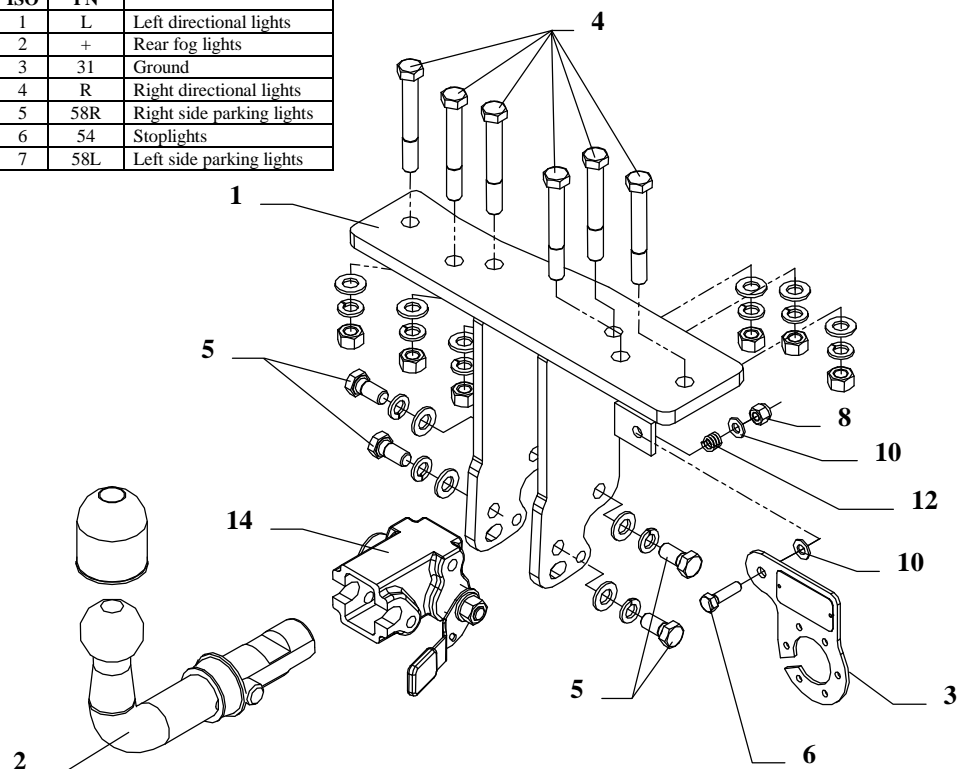
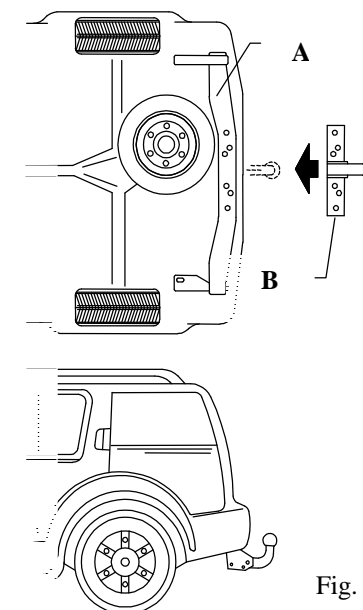

Fig. 1
Fig. 3
2. Unscrew original bar (pos. A, fig. 3) from chassis frame.
3. Fix main bar of the towbar (pos. B, fig. 3) to unscrewed bar (pos. A, fig. 3) using bolts M12x90mm (pos. 4).
5. Reinstall bar (pos. A, fig. 3) to chassis members.
6. Fix body of the automat (pos. 14) using bolts M12x25mm (pos. 5) from accessories. Place tow-ball (pos. 2) according to supplied instruction.
7. Fix the socket plate (pos. 3) as shown on the fig. 1.